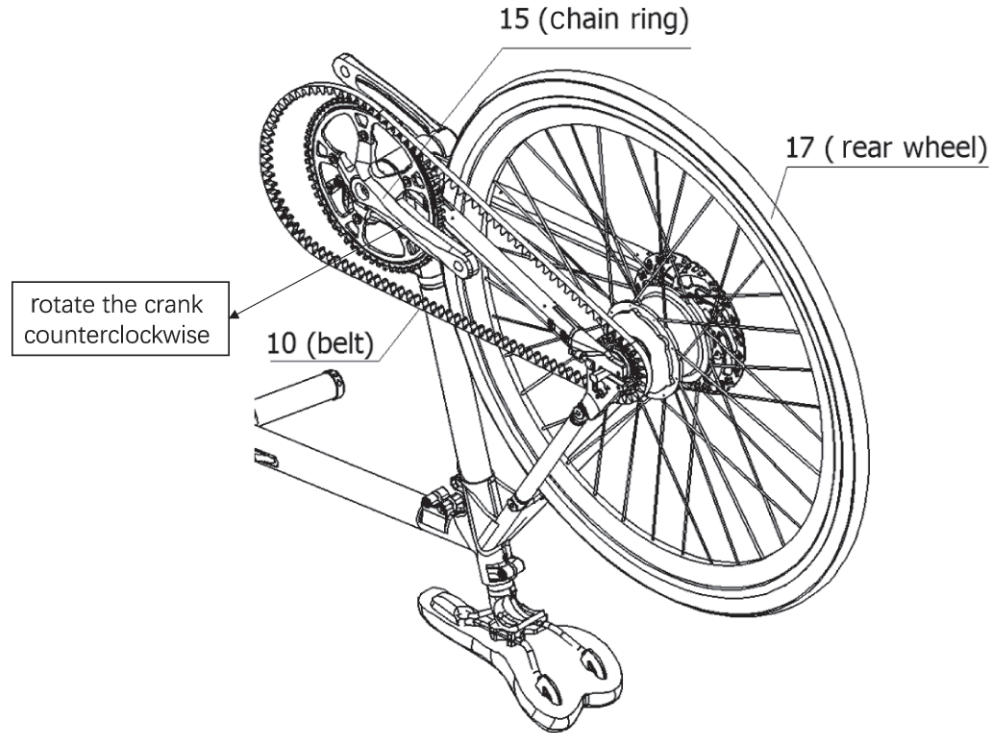

Figure 31.
f. Cover the upper side of Part 15 with Part 10 and make the center of Part 10 engage with the center of Part 15. Turn the crank on Part 15 counterclockwise to make Part 10 cover Part 15 completely, as shown in Figure 31.